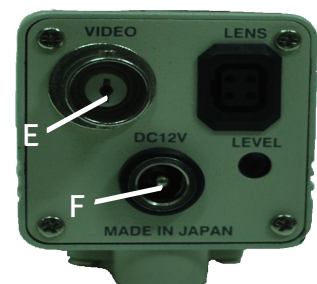

Figure 15
4. Plug in the video cable into the Analog video Connector. Shown as (E)., Refer Figure. 15.
5. Plug in the Power Connector into the Camera Power inlet. Shown as (F)., Refer Figure. 15.